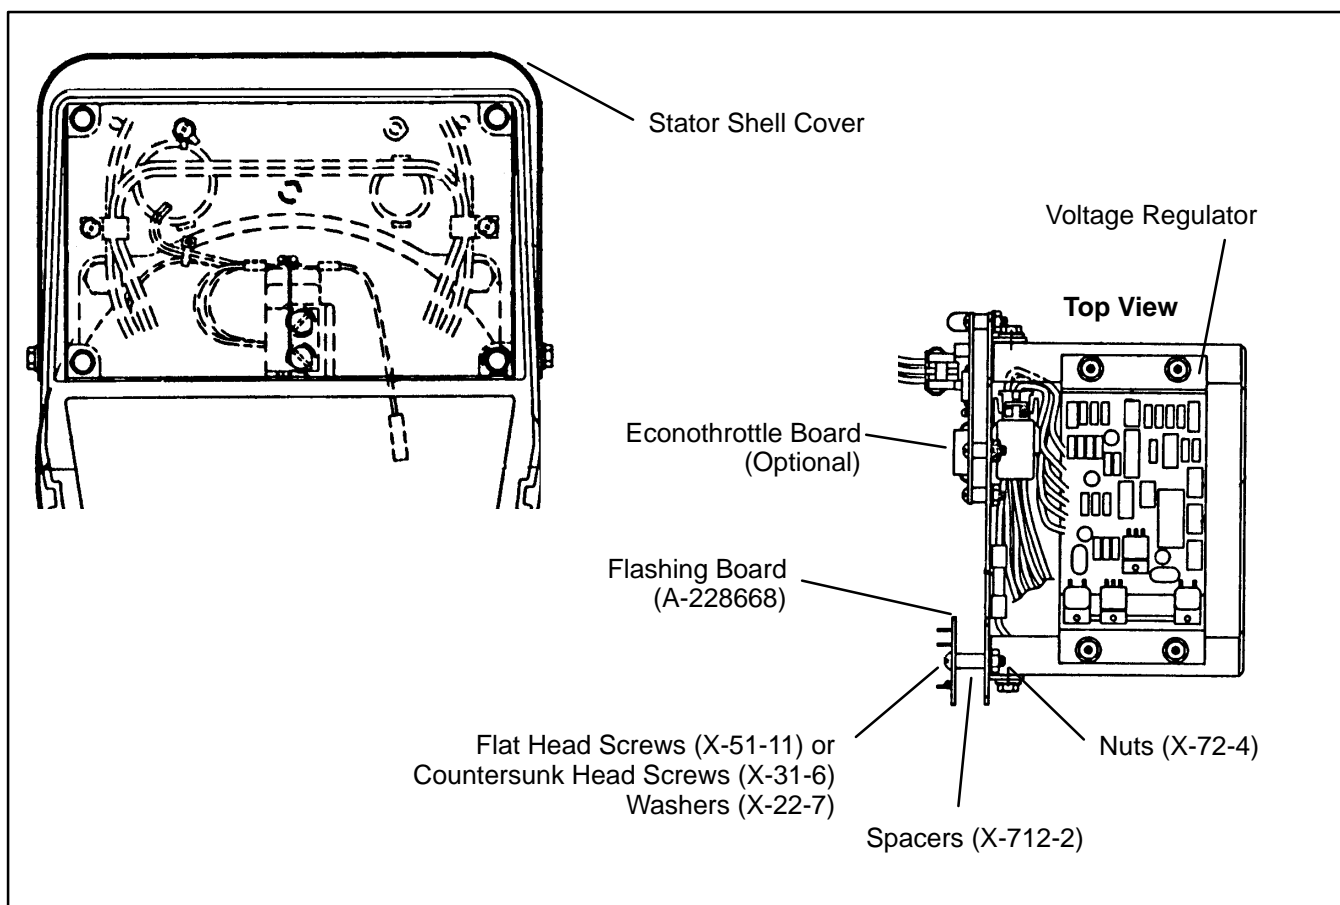

Figure 2. Flashing Board Location When Mounted Underneath Stator Shell Cover.
3. Disconnect F- lead and 66 lead(s) from the flashing board. There are two 66 leads if the unit has an econothrottle board and one 66 lead if the unit does not have an econothrottle board. See Figure 2 for the flashing board location.
5. Mount the new flashing board (A-228668) using the existing hardware or the hardware provided in the kit. See Figure 2.